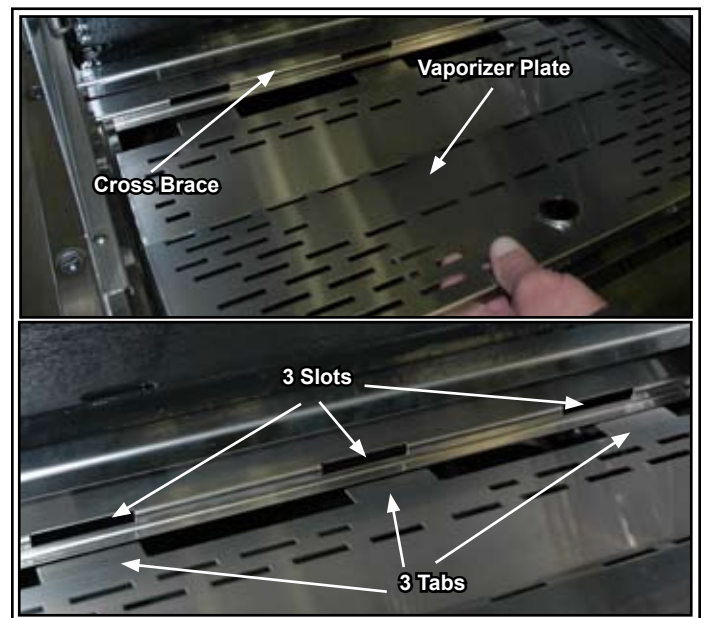

Figure 13
4. Place the three rectangular tabs on the rear edge of the vaporizer plate into the slots of the cross brace in the grill compartment. The V-shape bend is down and the round hole towards the front when properly installed. See Figure 13.